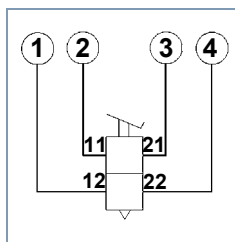

Fig. 6 Test bench ports
- Connect device to test bench ports (see fig. 6).